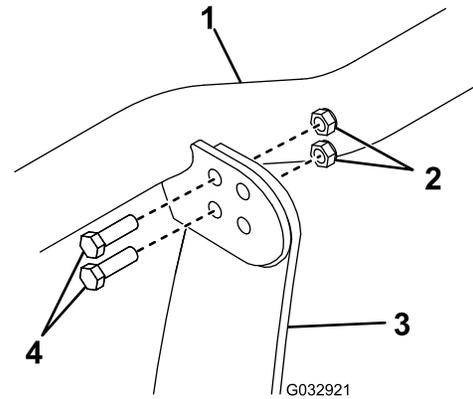

Figure 10
- Secure the light bar to the top of the coupler tower through the rear holes using 4 bolts (3/8 x 1-1/4 inch) and self-locking nuts (3/8 inch) (Figure 10). Torque the bolts to 31 N·m (23 ft-lb).